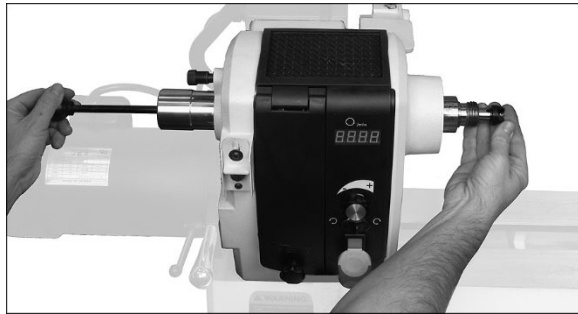

Figure 7-8: removing spur center
3. To *remove* a center, first remove workpiece from lathe. Insert knockout rod (Figure 7-8) through hole in handwheel and tap the end of spur center.